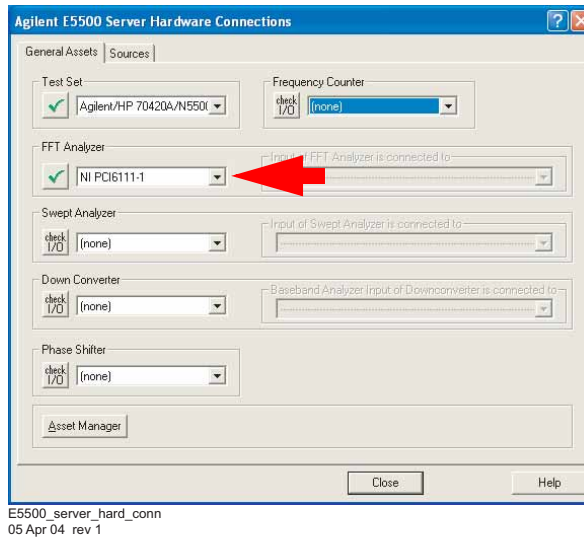

Figure 15 Select test set, FFT analyzer, and swept analyzer
- 4 From the **FFT Analyzer** pull-down list, select **NI PCI6111-1** (see Figure 15). Click the **Check I/O** button. A green check-mark confirms a successful I/O check. If the I/O check is not successful, follow the same process as in step 3d to verify instrument configuration and connection.